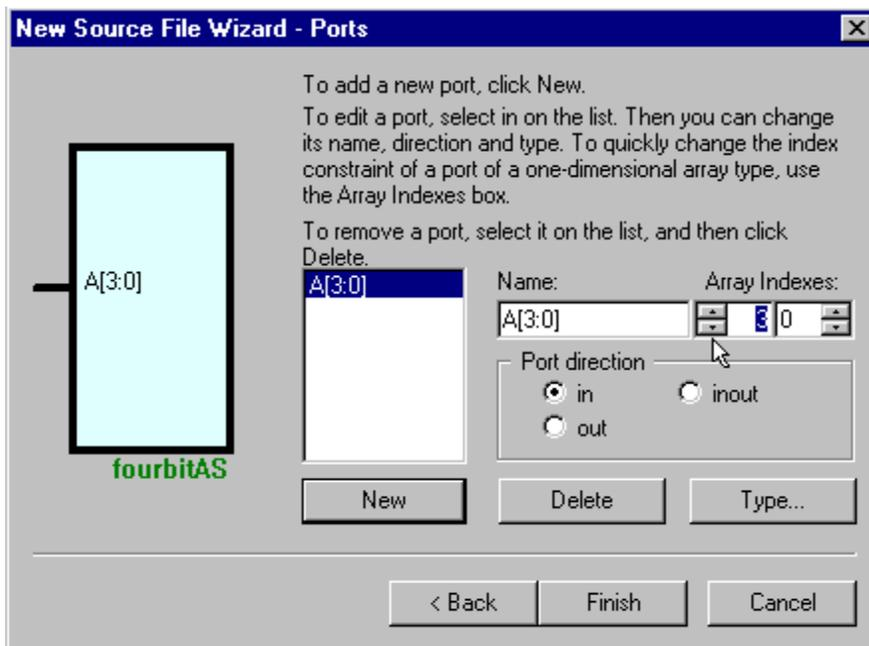

Figure 7
2. To add a multi-bit terminal while in the wizard, type in the name of the terminal and select whether it is an input or output terminal. Now in the “Array Indexes” fields, place a 3 in the field on the left (the “to” field), and a 0 in the field on the right (the “from” field). You can enter in the numbers or use the arrow buttons to the right of each field. The fields will read “from 0 to 3”, or in other words, a 4-bit port (see Figure 7 on the next page). To add multi-bit terminals in the schematic, click the drop down arrow next to the Terminals icon in the toolbar. Mouse over the options, select the desired terminal, and drop it into the schematic. Double-click the terminal in the design, and adjust the “Index Range” fields in the Terminal Properties window (not shown) to the desired number of bits.